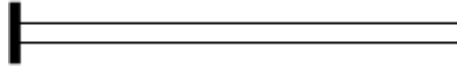

Figure 9
10. Determine the frequencies and nodal displacements of the steel cantilever beam length of 600 mm with cross section of $60 \text{ mm} \times 20 \text{ mm}$ shown in figure 9. Take $E = 70 \text{ GPa}$, $\nu = 0.3$ and $\rho = 7840 \text{ kg/m}^3$. [10]